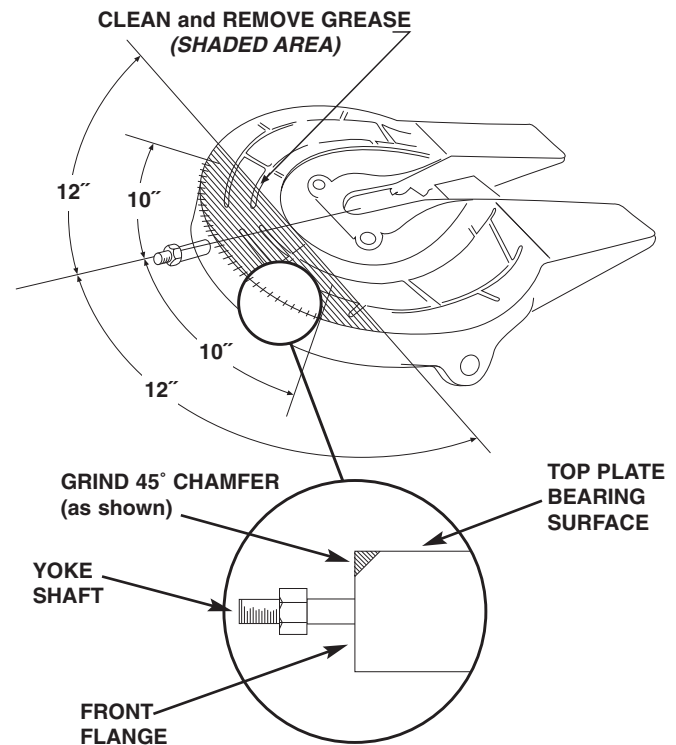

FIGURE 1
2. Clean and remove any large quantities of grease from the top plate surface to reduce the possibility of fire. Then (using a solvent such as diesel fuel) clean and remove all grease from the front flange and top plate bearing surface of the fifth wheel for a distance of at least 12 inches on each side of the yoke shaft and extending back approximately 6 inches on the top plate surface. Thoroughly dry surface. **(See Figure 1)**
3. Grind a $\frac{1}{4}$ " x 45 degree chamfer on the front top edge of the fifth wheel for a distance of 10 inches on each side of the yoke shaft centerline. **(See Figure 1)**